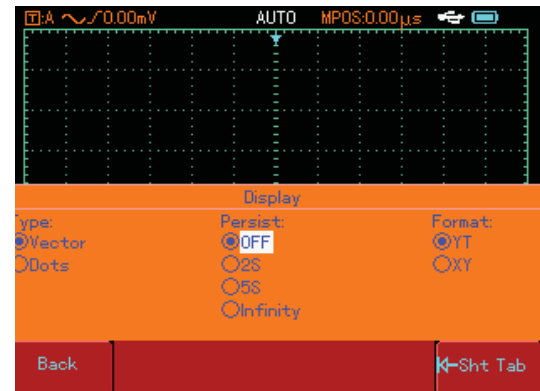

Figure 2-4 Operating the “Continuous” Menu with the jog dial
c. With the jog dial, select dot as the display type. The selected menu will appear bold. Then press the jog dial once to confirm. “Dot” is now selected as the display type, and the bold selection indicator on the screen will automatically jump to the continuous menu, as shown in Figure 2-4. Turn the jog dial to set continuous mode to 5s, then press the jog dial once to confirm. The screen
Note : When operating the menu as shown in Figure 2-4, if the menu selection indicator is at “continuous”, you can press the return key [F5] to go back to the previous type menu to reset that page.